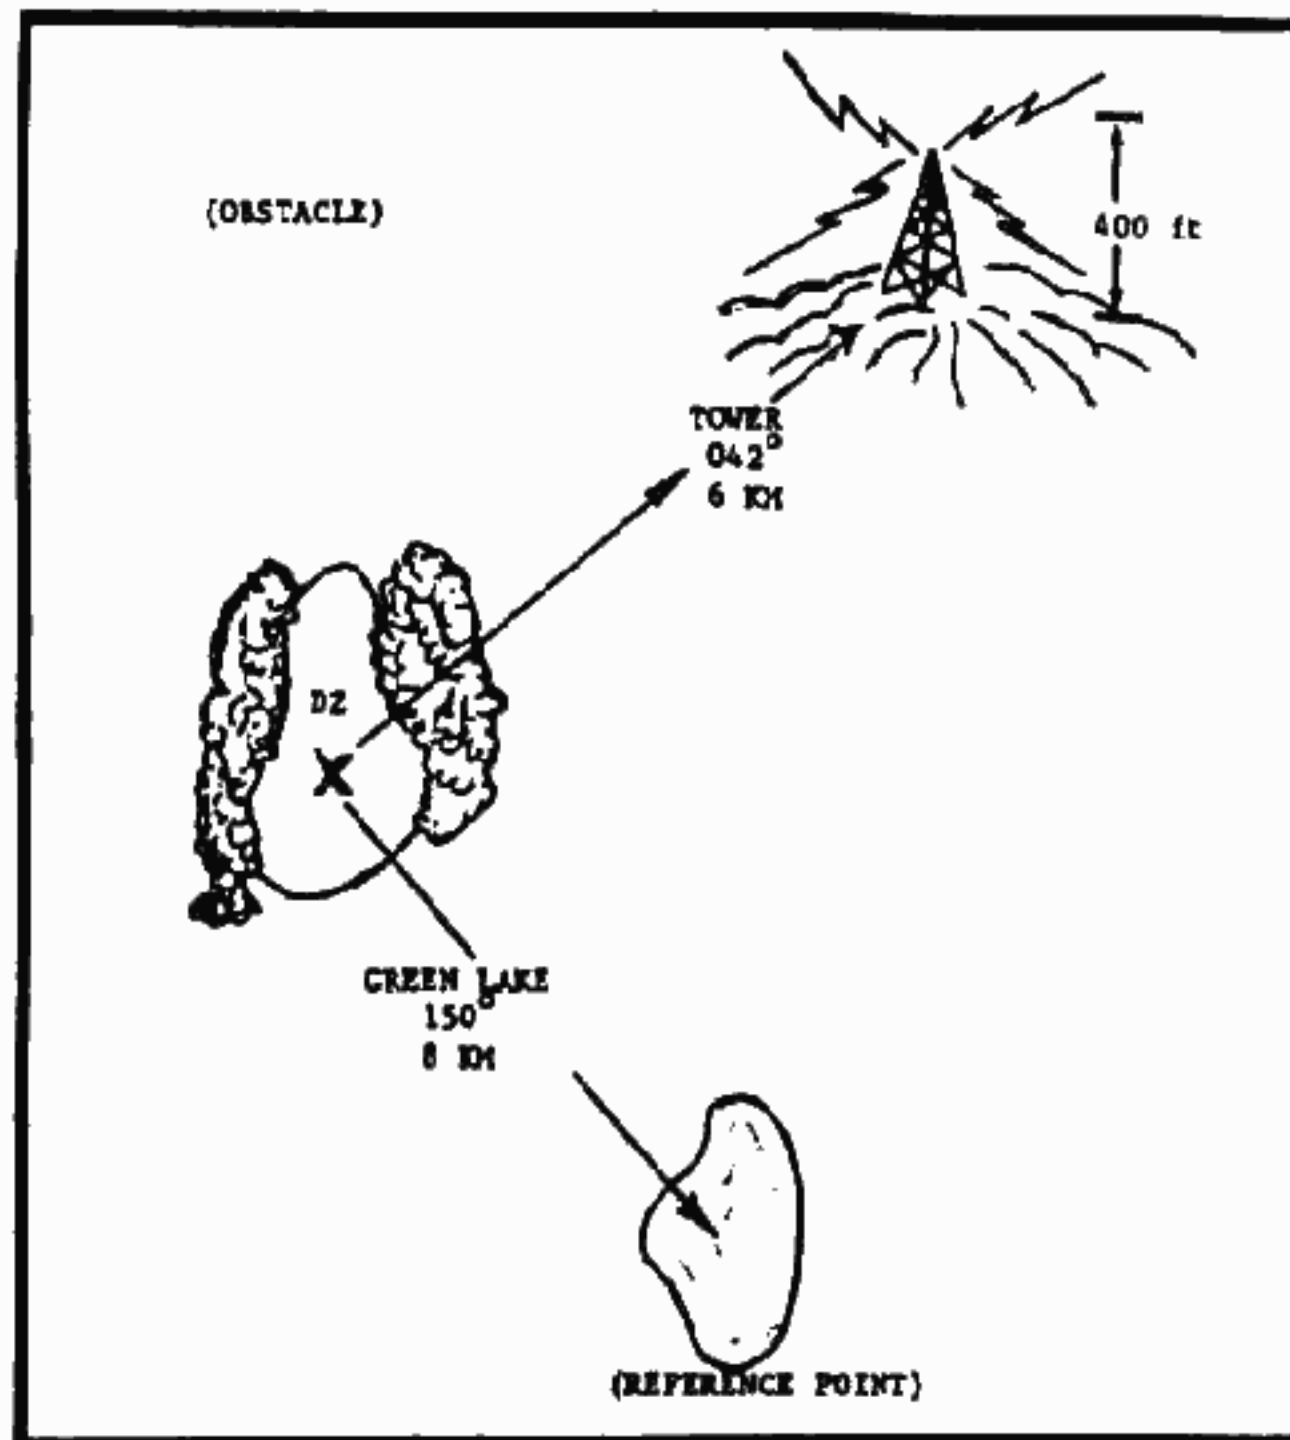

Figure 4. Reporting obstacles and reference points
- (5) **Obstacles.** Those that are over 300 feet (90 meters) in elevation above the level of the DZ, within a radius of 5 miles (8 kilometers) and which are not shown on the issued maps. Obstacles are reported by description, magnetic azimuth, and distance from the center of the DZ (Figure 4).
- (6) **Reference point.** A landmark shown on the issued maps, reported by name, magnetic azimuth and distance from the center of the DZ (Figure 4). Used with (2) above in plotting the DZ location.